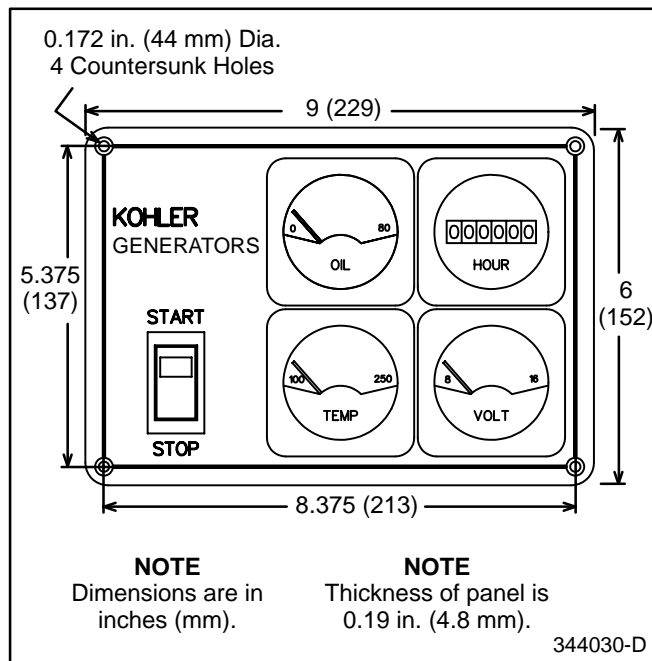
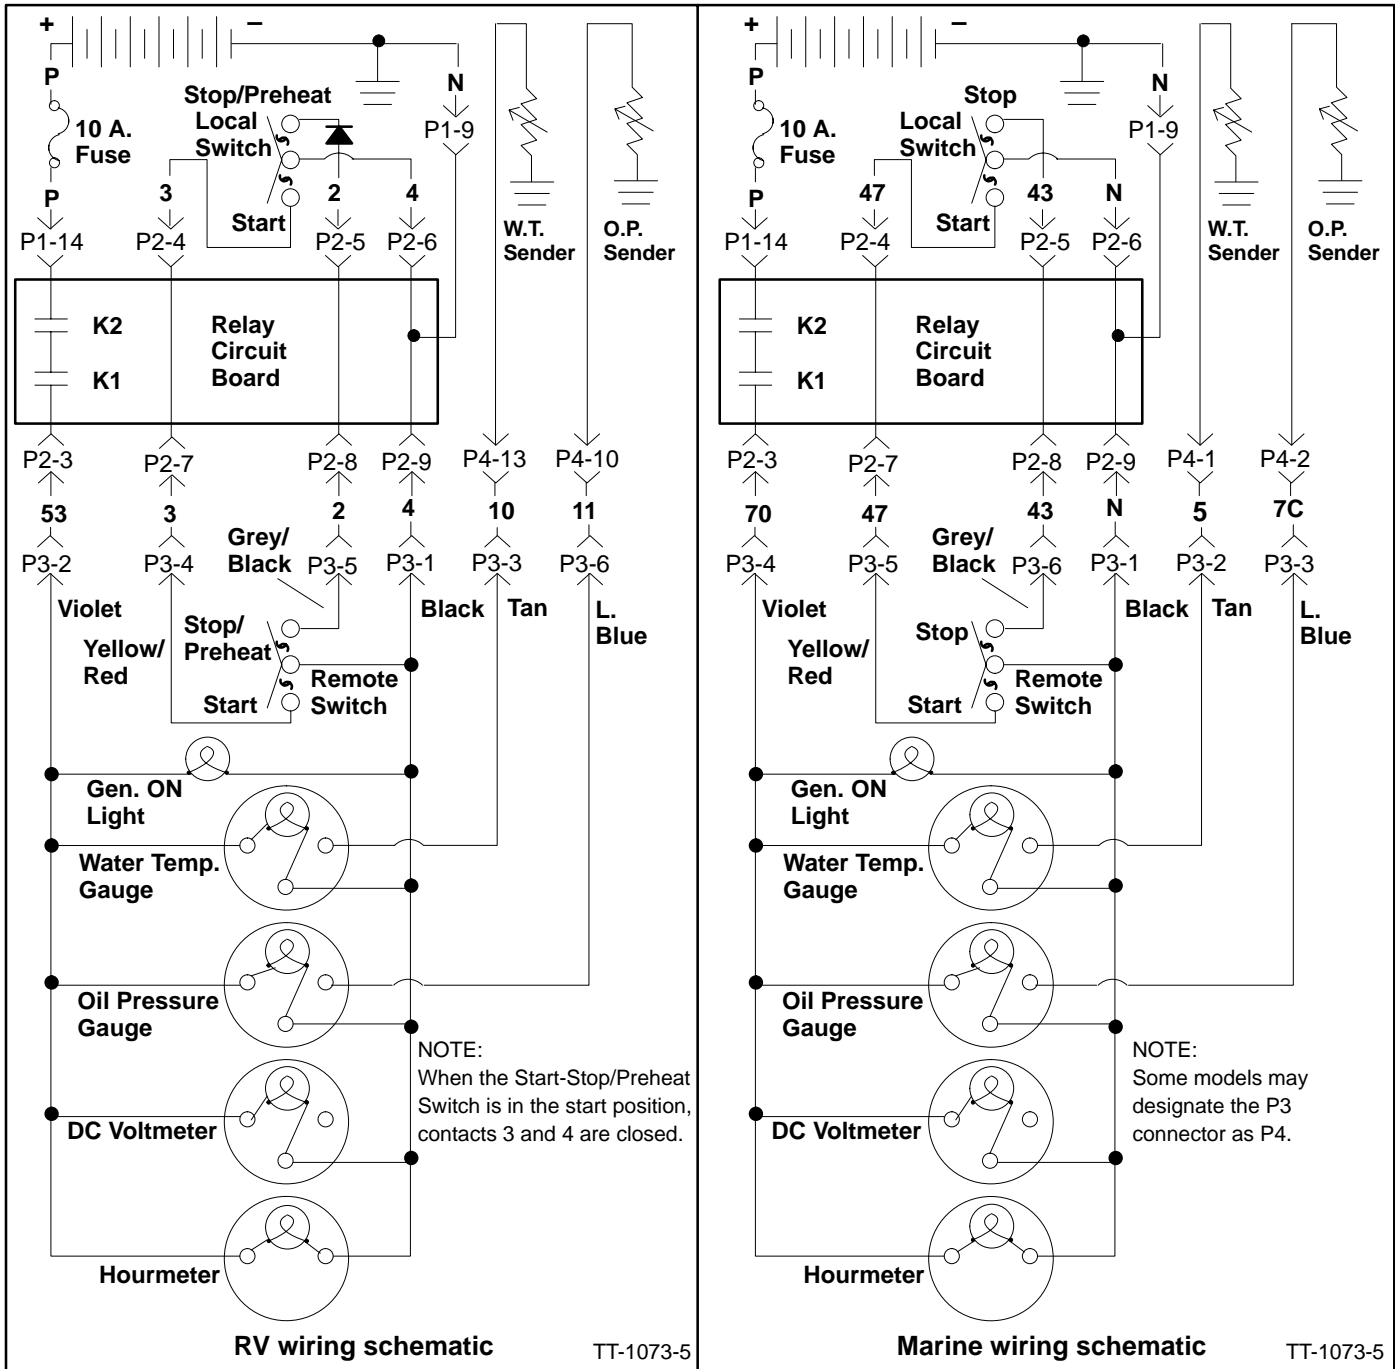

Figure 2. Meter Panel Dimensions
Figure 3. Typical Electrical Connections
3. Determine where in the vehicle/wheelhouse or bridge to mount the panel. The length of the wiring harness and the size of the panel (including mounting depth), limits this decision. See Figure 2 for mounting dimensions. Allow a minimum of 4 in. (102 mm) mounting clearance behind the panel. See Figure 3 and 4 for the panel assembly wiring.